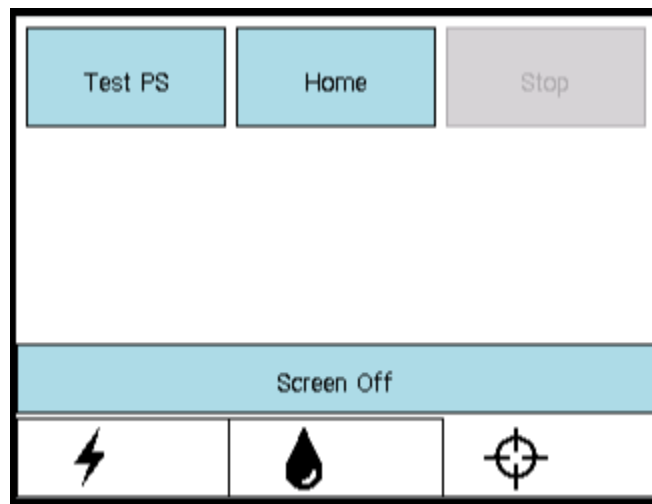

Figure 15: PSIB display - PS tab
- b. On the PSIB display, select the PS tab and click **Test PS** (*Figure 15*). The system will translate the PS forward and backward to test the continuity and functionality of the translation axis as well as home the PS in the translation axis. The system will also rotate the rotational axis clockwise and counter-clockwise to test the continuity and functionality of the rotational axis. (This can also be done from the TDC *Setup* workspace in the PS information box in the bottom-right quadrant *Figure 16*.)